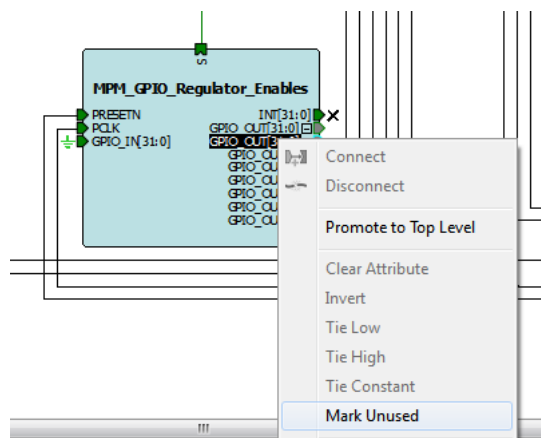

Figure 33 • Selecting Mark Unused for GPIO_OUT[31:6]
14. Right-click GPIO_OUT[31:6] of MPM_GPIO_Regulator_Enables and select Mark Unused as shown in Figure 33.